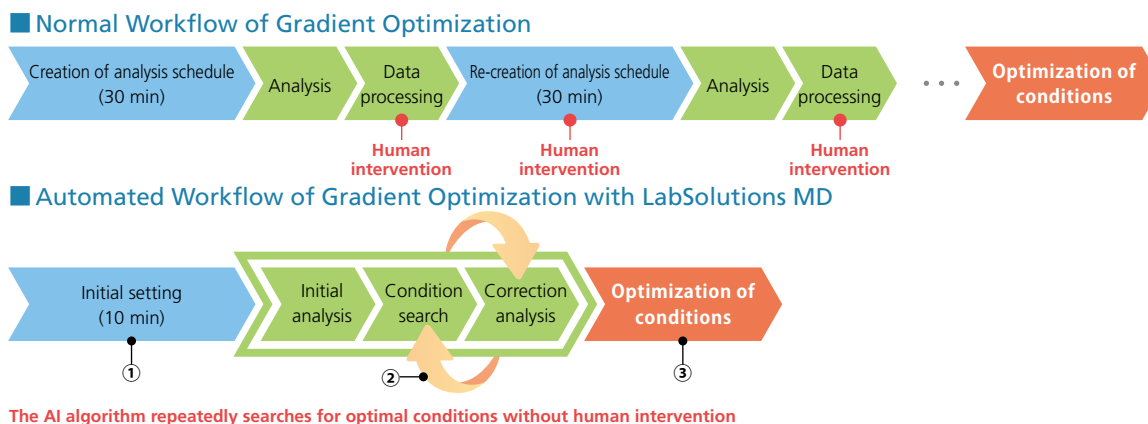
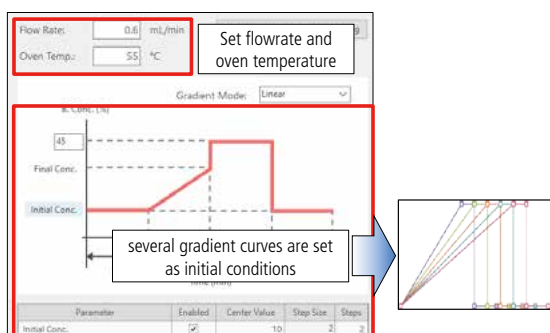

Fig. 1 Comparison of Normal Workflow and Automated Workflow with LabSolutions MD
Fig. 2 Initial Setting for Gradient Optimization
Fig. 1 shows a comparison of the normal workflow of gradient optimization and automated workflow by AI algorithm of LabSolutions MD. The workflow of automatic optimization of gradient conditions consists of the following three phases.
- 1) Initial setting (① in Fig. 1)
- 2) Exploration of gradient conditions by AI (② in Fig. 1)
- 3) Determination of optimal condition (③ in Fig. 1)
In the "initial setting" phase, several gradient curves and the resolution criteria are set (Fig. 2 and 3). In the "exploration of gradient conditions by AI" phase, LabSolutions MD explores the gradient conditions to give better resolution based on the results from initial analysis (condition search and correction analysis in Fig. 1 ②). This process continues repeatedly until the resolution criteria is satisfied. In the "determination of optimal condition" phase, the gradient condition suggested by AI can be checked to sufficiently meet the criteria.